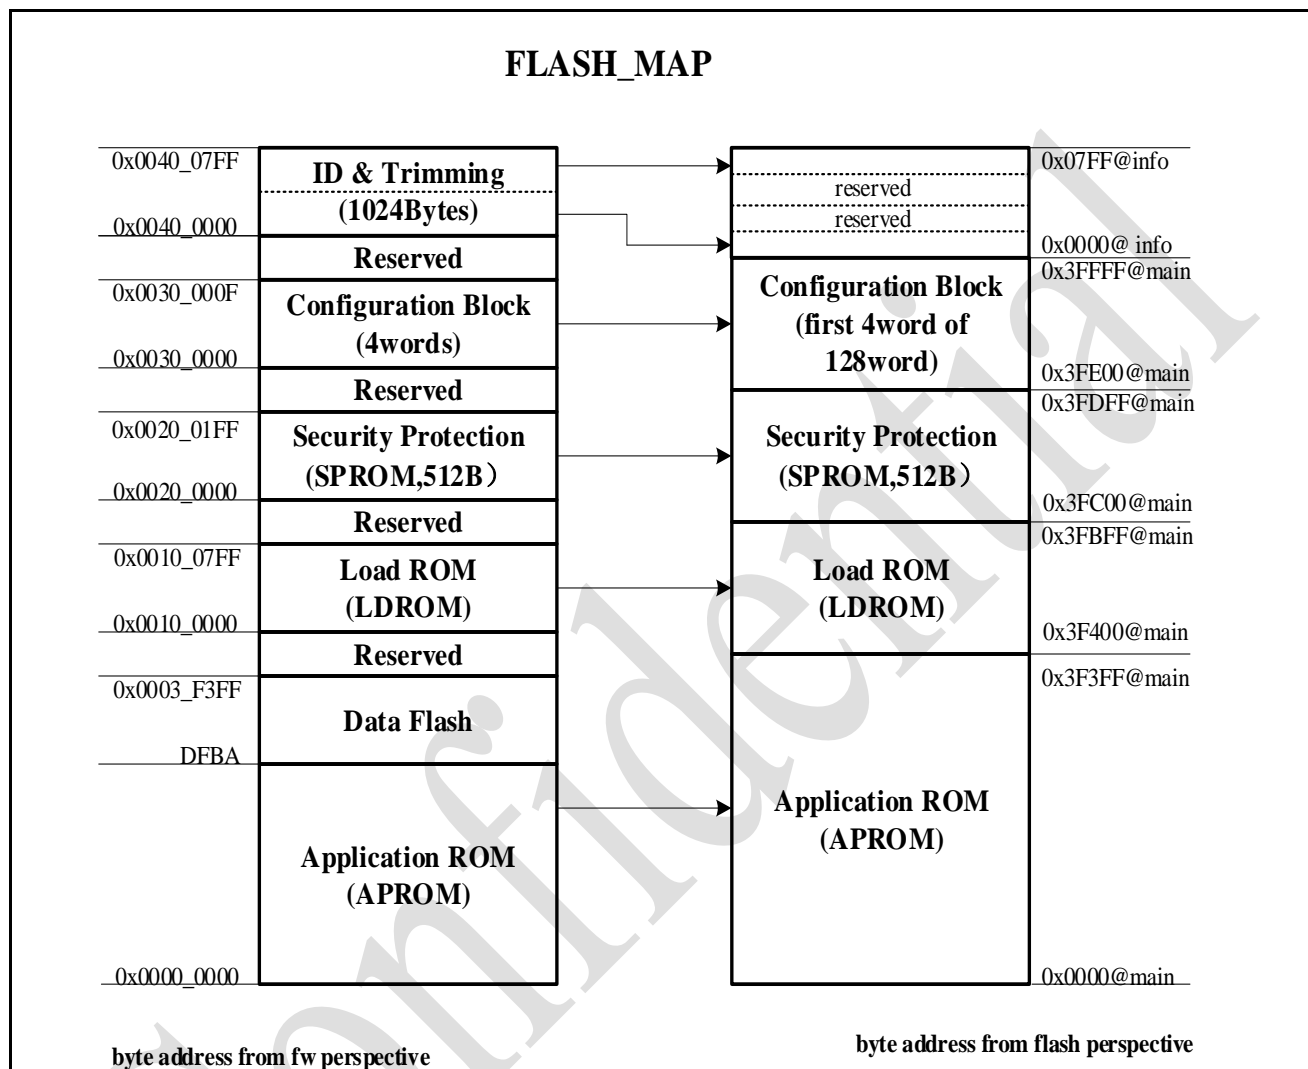

Figure 4-16 Flash Memory Map
In the PAN1020 series, the flash memory map is different to system memory map. The system memory map is used by CPU fetch code or data from FMC memory. The flash memory map is used for ISP function to read, program or erase FMC memory. Figure 4-16 shows the flash memory map.
1. Perform ISP “Run Memory Checksum” operation: user has to set the memory starting address (FMC\_ISPADDR) and size (FMC\_ISPDAT) to calculate. Both address and size have to be 4 bytes alignment, the size should be must be multiples of 4 bytes and the starting address is absolute address, in Figure 4-16 Flash Memory Map, it refers to byte address from flash perspect.
3. Read FMC\_ISPDAT to get checksum: The checksum is read from FMC\_ISPDAT. If the checksum is 0x0000\_0000, It must be one of two conditions (1) Checksum calculation is in-progress, (2) Address and size is over device limitation.